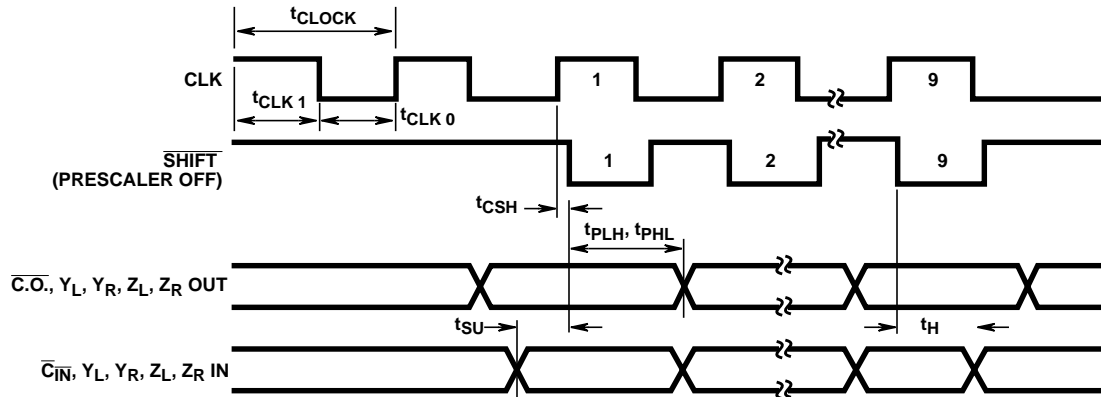

FIGURE 7. OPERATION TIMING DIAGRAM
**Dynamic Electrical Specifications** At  $T_A = -40$  to  $+85^\circ\text{C}$ ,  $V_{DD} \pm 5\%$ ,  $t_R, t_F = 20\text{ns}$ ,  $V_{IH} = 0.7V_{DD}$ ,  $V_{IL} = 0.3V_{DD}$ ,  $C_L = 100\text{pF}$  (See Figure 7)